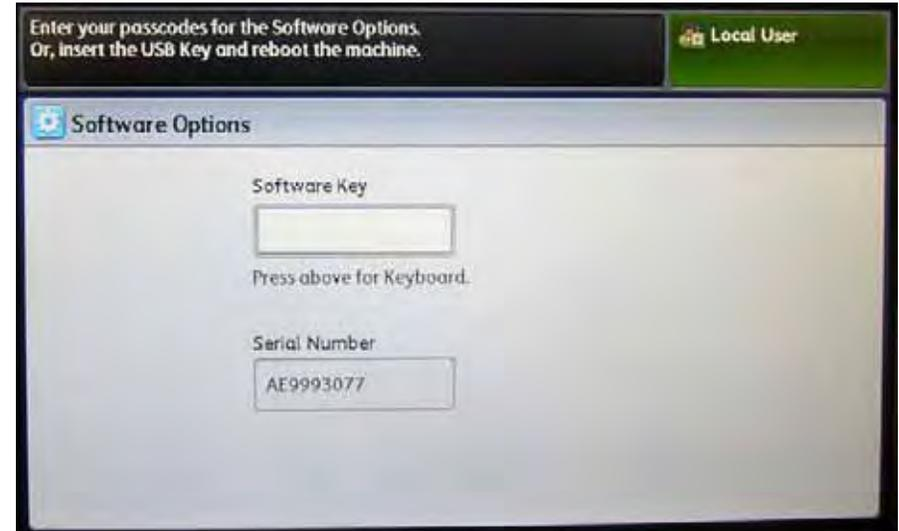

Figure 1 Software Options screen
- If the Software Options screen (Figure 1) displays, continue with the next step.